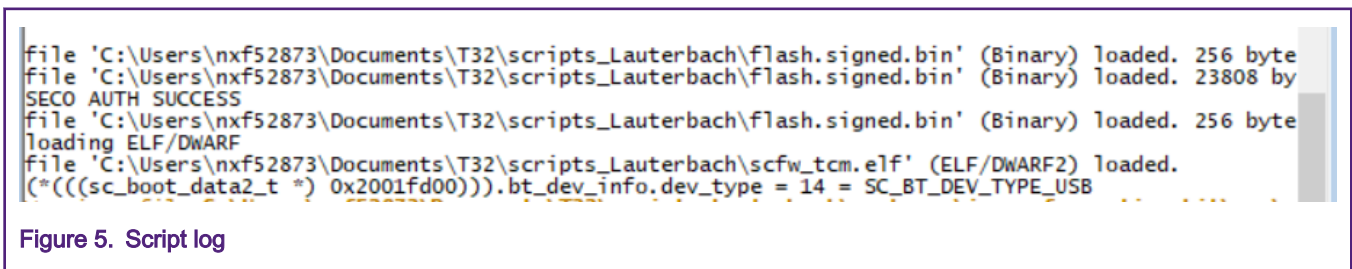

Figure 5. Script log
3. If the script succeeds, “SECO AUTH SUCCESS” is reported in the AREA window Figure 5.